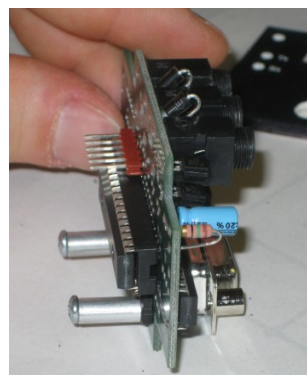

Figure 6: Bent transient voltage suppression diodes (TVSD)
- Once the components have been shifted partly out of the board, they can be bent to one side to allow access with a wire cutter to divide the part into two halves for removal. (**Figure 6**).